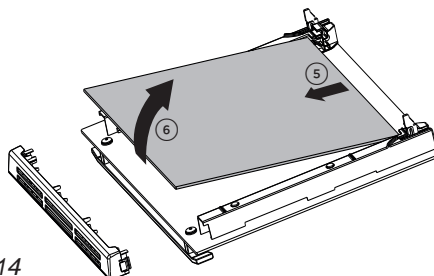

Fig. 4.14
- Gently lift and pull the middle pane of glass by releasing it from the bottom retaining notches (fig. 4.14).